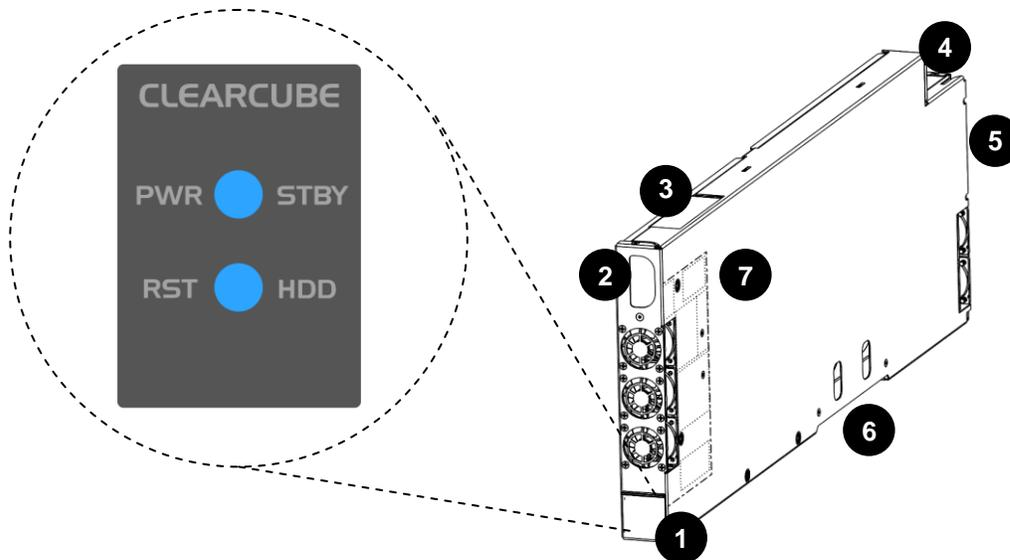

Figure 1. The A6106SLW Blade PC components
The power button is located on the top portion of the front panel, shown as 1A in Figure 1 on page 1.
The reset button is located on the bottom portion of the front panel, shown as 1B in Figure 1 on page 1.
- a ClearCube zero client compatible with the blade’s video configuration (a dual zero client for a dual host card or a quad zero client for a quad host card). The blade’s video configuration is specified on a label on the side of the blade (shown as item 7 in Figure 1 on page 1).